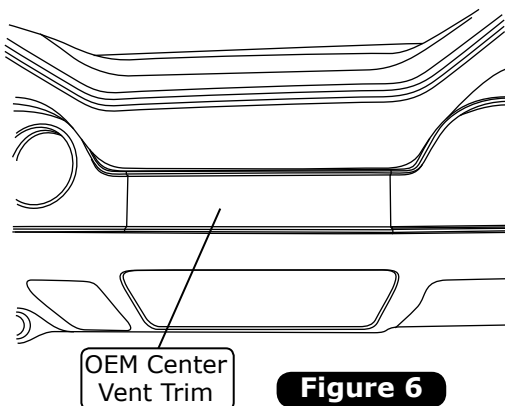

Figure 6
1. Remove the OEM center vent trim from the dash as shown in Figure 6, below.